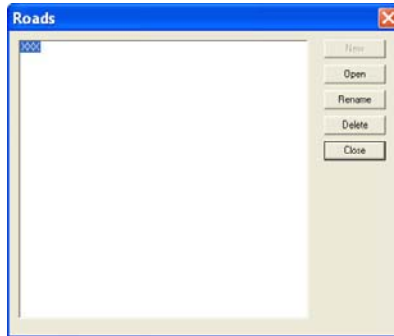

Figure 13-84. Roads View Menu Option
- Click **Design ▶ Cross Section ▶ Cross Section Editor** or press the icon . The **Roads** dialog box appears (Figure 13-84) and displays the available Roads data listed by alignment name.